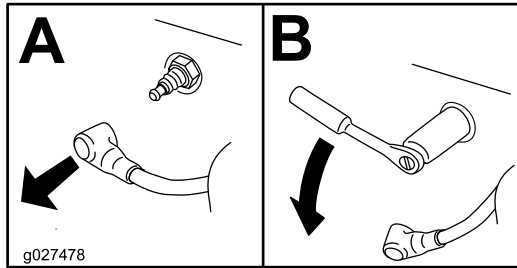

Figure 48
4. Locate and remove the spark plug(s) as shown in Figure 48.